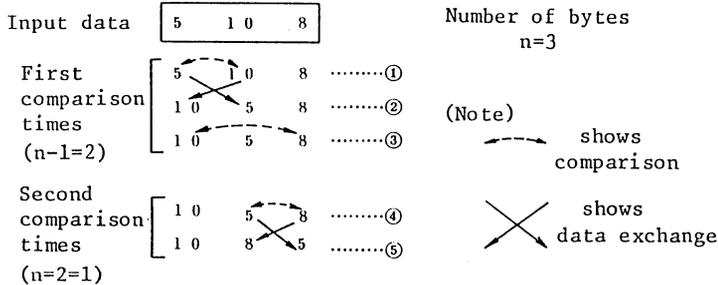

Fig. 2 Example of sorting
(a) Fig. 2 shows how 3-byte values are sorted in descending order.
(See Fig. 2 ① ② and ③)
(See Fig. 2 ④, ⑤)